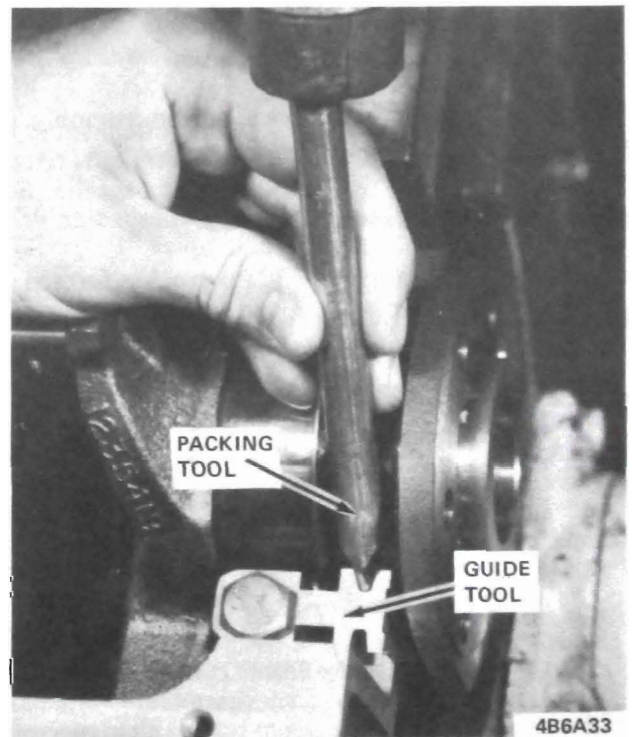

Figure 6A-82 Packing Short Pieces of Rope Seal into Guide Tool and Cylinder Block
5. Install Guide Tool (J-21526-1) onto cylinder block. See Figure 6A-81.